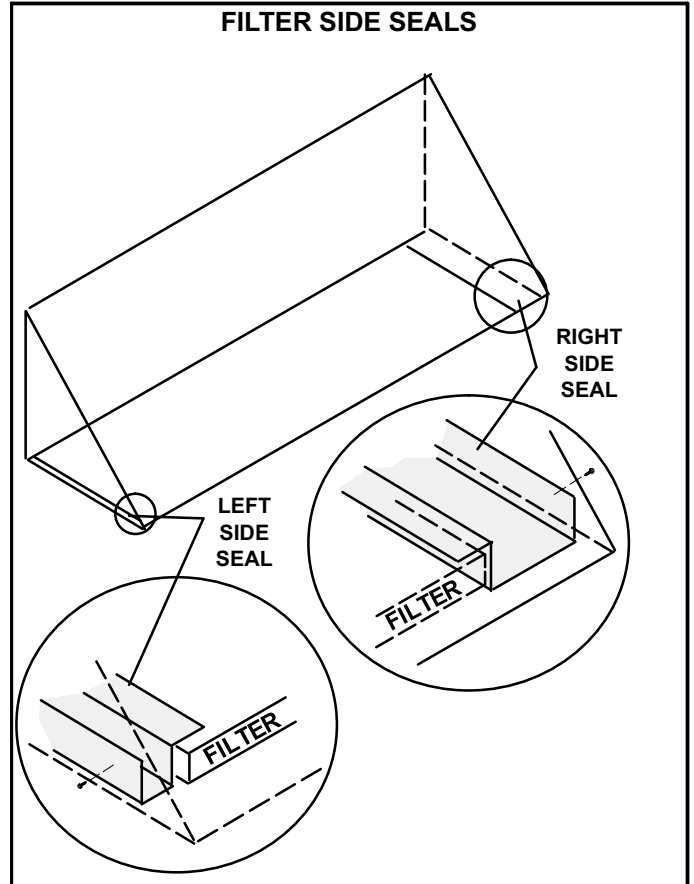

FIGURE 6
- 4- Position filter side seals on hood sides; make sure brackets are on the INSIDE of the hood. Secure with screws provide. See figure 6.